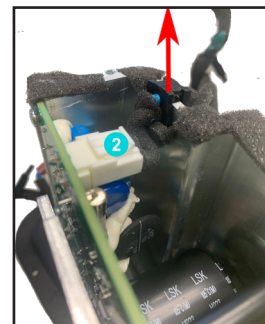

Figure 11. Disconnect Cable ②
2.6 Disconnect the cable ② that are attaching the AC Plug as indicated in Figure 11.